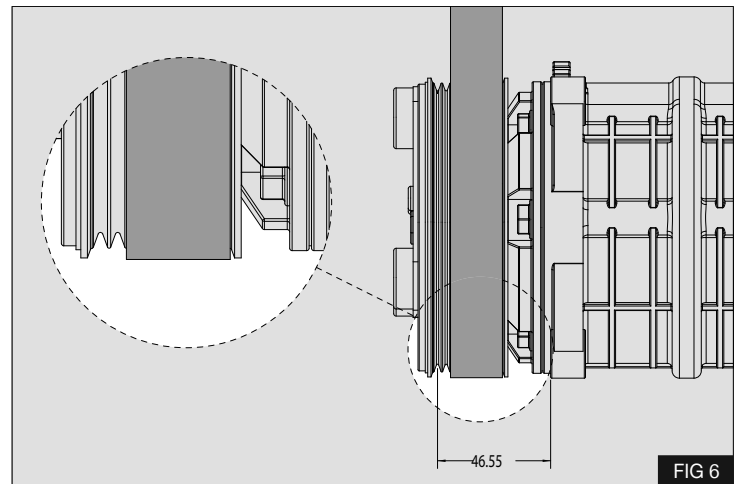

FIG 6
5. Ensure the belt is positioned into the correct grooves (Model Specific). - Fig 6